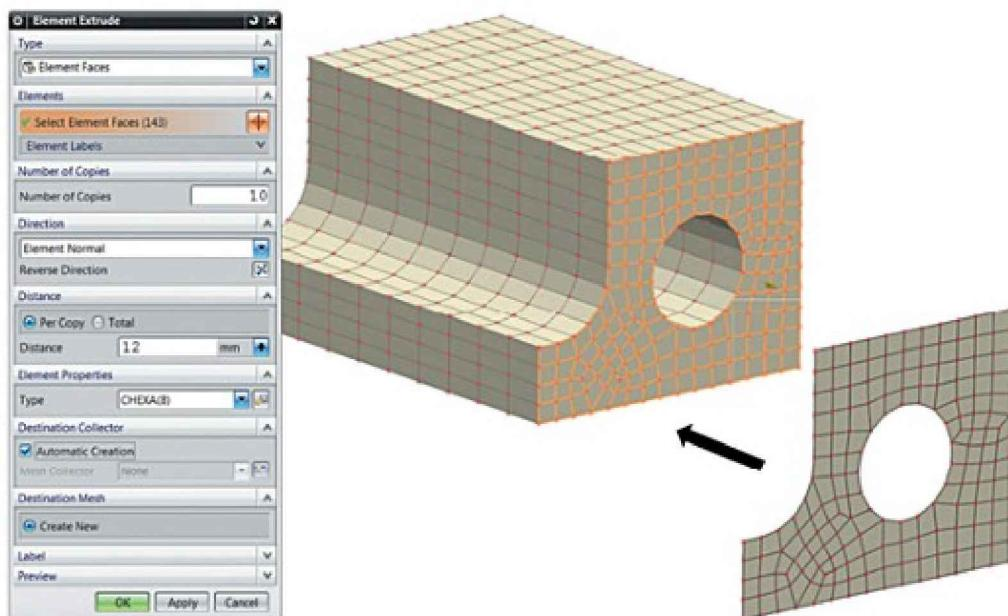

Figure 3.46. Creating elements
- Use the **Element Extrude** command to create a set of elements by extruding edges (creating 2D elements) or faces (creating 3D elements) of existing elements. You can create several elements at once by specifying the necessary number. You can extrude by specifying direction, a path, or by projecting onto a surface (Figure 3.46). The operation is performed for the selected element type and destination collector (physical properties).